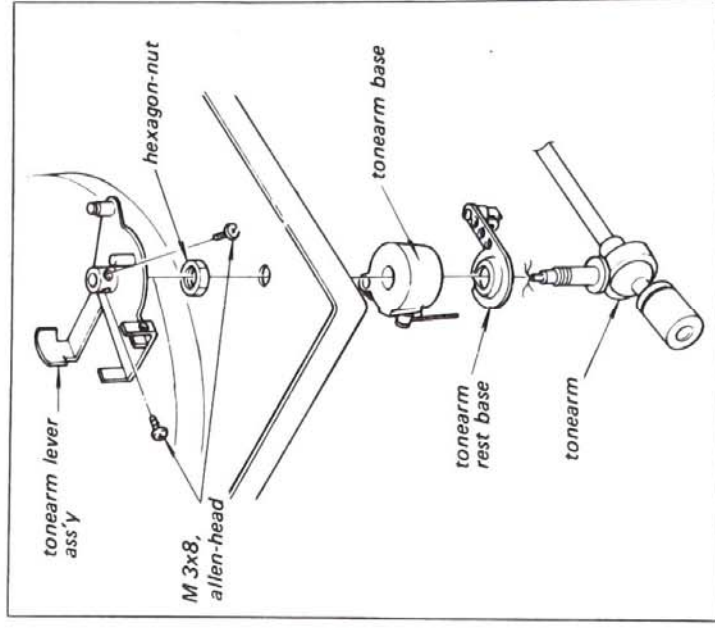

Fig. 2-14. Tonearm replacement
5. Remove the tonearm lever ass'y by loosening the two allen-head screws as shown in Fig. 2-14.
6. Remove the hexagon-nut securing the tonearm to the turntable base as shown in Fig. 2-14.